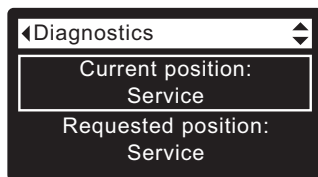

FIG. 109
4. Press the UP (▲) button to scroll through the list until **Current position** is displayed (See Figure 109).